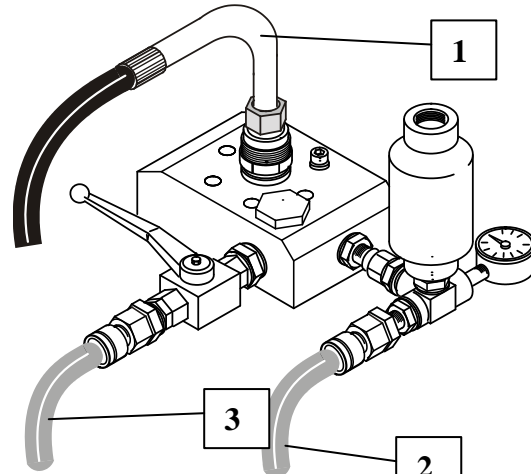

Fig.26
3) Check to make sure that all of the pipes are connected correctly (fig. 26)